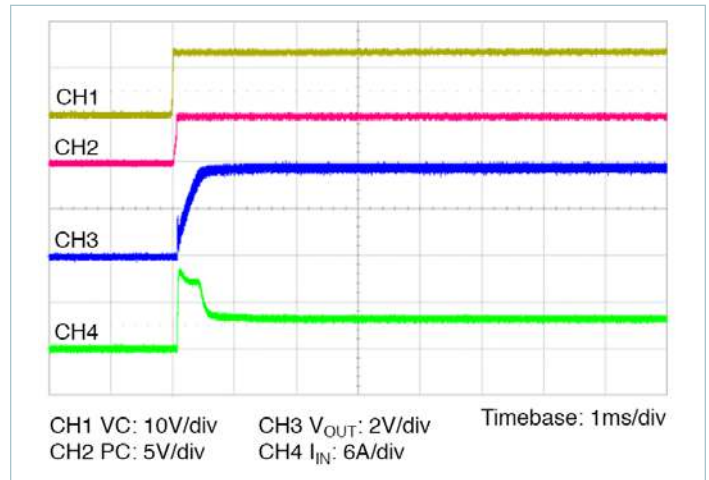

Figure 14 — Start up from application of VC;  $V_{IN}$  pre-applied  $C_{OUT} = 9100\mu\text{F}$
- **Stand-alone operation (VC applied after  $V_{IN}$ ):** In this case the VTM output will begin to rise upon the application of the VC voltage (See Figure 14). The Adaptive Soft-Start Circuit may vary the output rate of rise in order to limit the inrush current to its maximum level. When starting into high capacitance or a short, the output current will be limited for a maximum of 1200 $\mu$ s. After this period, the Adaptive Soft-Start Circuit will time out and the VTM module may shut down. No restart will be attempted until VC is re-applied or PC is toggled. The maximum output capacitance is limited to 9100 $\mu$ F in this mode of operation to ensure a successful start.